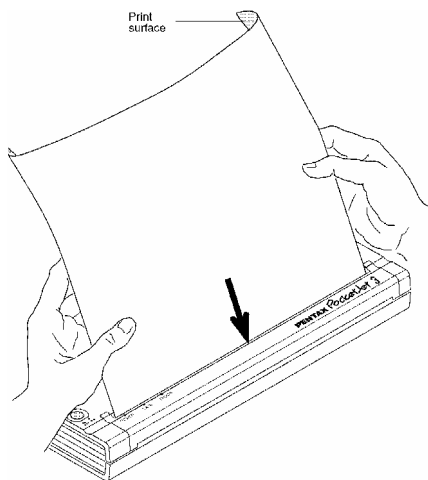

FIGURE 9. Inserting a sheet of paper
3. Insert a sheet of Pentax Quality Paper into the paper input slot. Place the print side of the paper away from you, so that it faces the rear of the printer. See Figure 9.